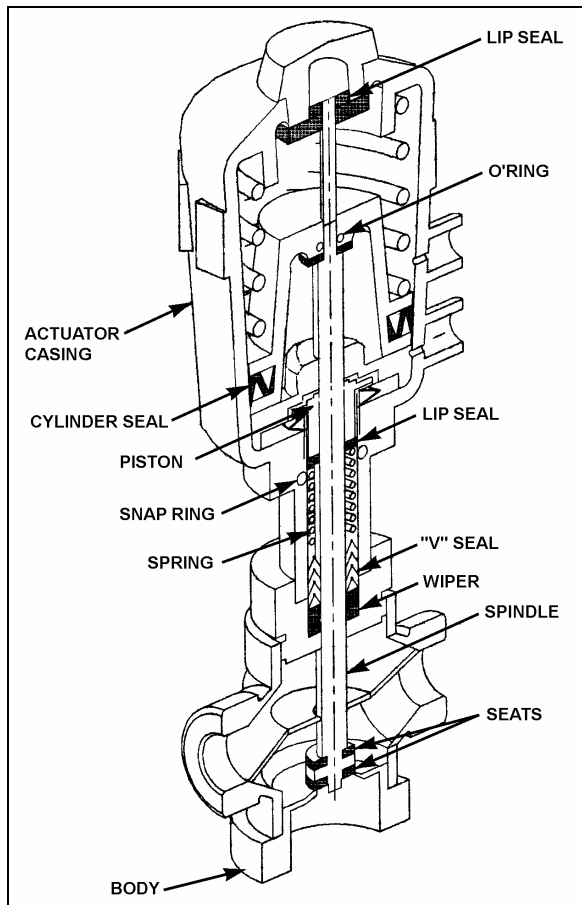

FIGURE 56: PNEUMATIC WATER VALVE
2. The water valve need not be removed from the line. Unscrew nipple, the actuator casing, tube, spindle and closure member can be removed (Fig. 56).
2. Tighten the nipple in place in the body cavity as per figure 56. Fasten pilot solenoid valve to the pneumatic water valve. Reconnect air supply pressure and electrical current to the pilot solenoid valve.